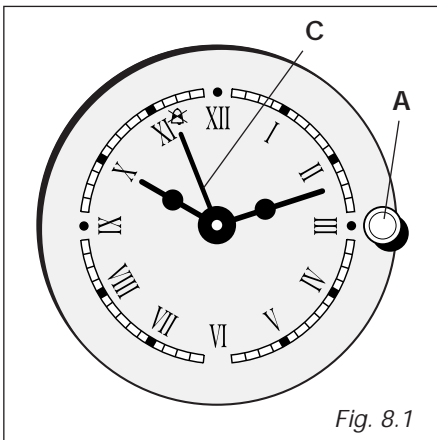

Fig. 8.1
(fig. 8.1)
To set the minute counter, rotate the small knob (A) clockwise or anticlockwise (without pressing it) until the hand (C) coincides with the required time (max 55 minutes) (fig. 8.1).